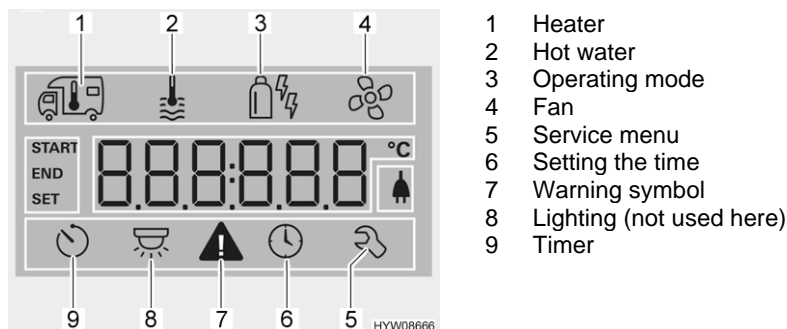

Fig. 165 Display (operating unit)
- Turn rotary push button (Fig. 164,6) until the heater menu symbol (Fig. 165,1) flashes.
- Turn rotary push button (Fig. 164,6) until the hot water menu symbol (Fig. 165,2) flashes.
- Turn rotary push button (Fig. 164,6) until the menu symbol operating mode (Fig. 165,3) flashes.
- Turn rotary push button (Fig. 164,6) until the fan menu symbol (Fig. 165,4) flashes.
- Turn rotary push button (Fig. 164,6) until the timer menu symbol (Fig. 165,9) flashes.
- Press rotary push button. The timer is activated. The timer symbol (Fig. 165,9) flashes when the timer is programmed and active.
The warning symbol (Fig. 165,7) flashes in the event of a warning. The heater continues to operate. In the event of only a temporary fault, the warning symbol goes out automatically.